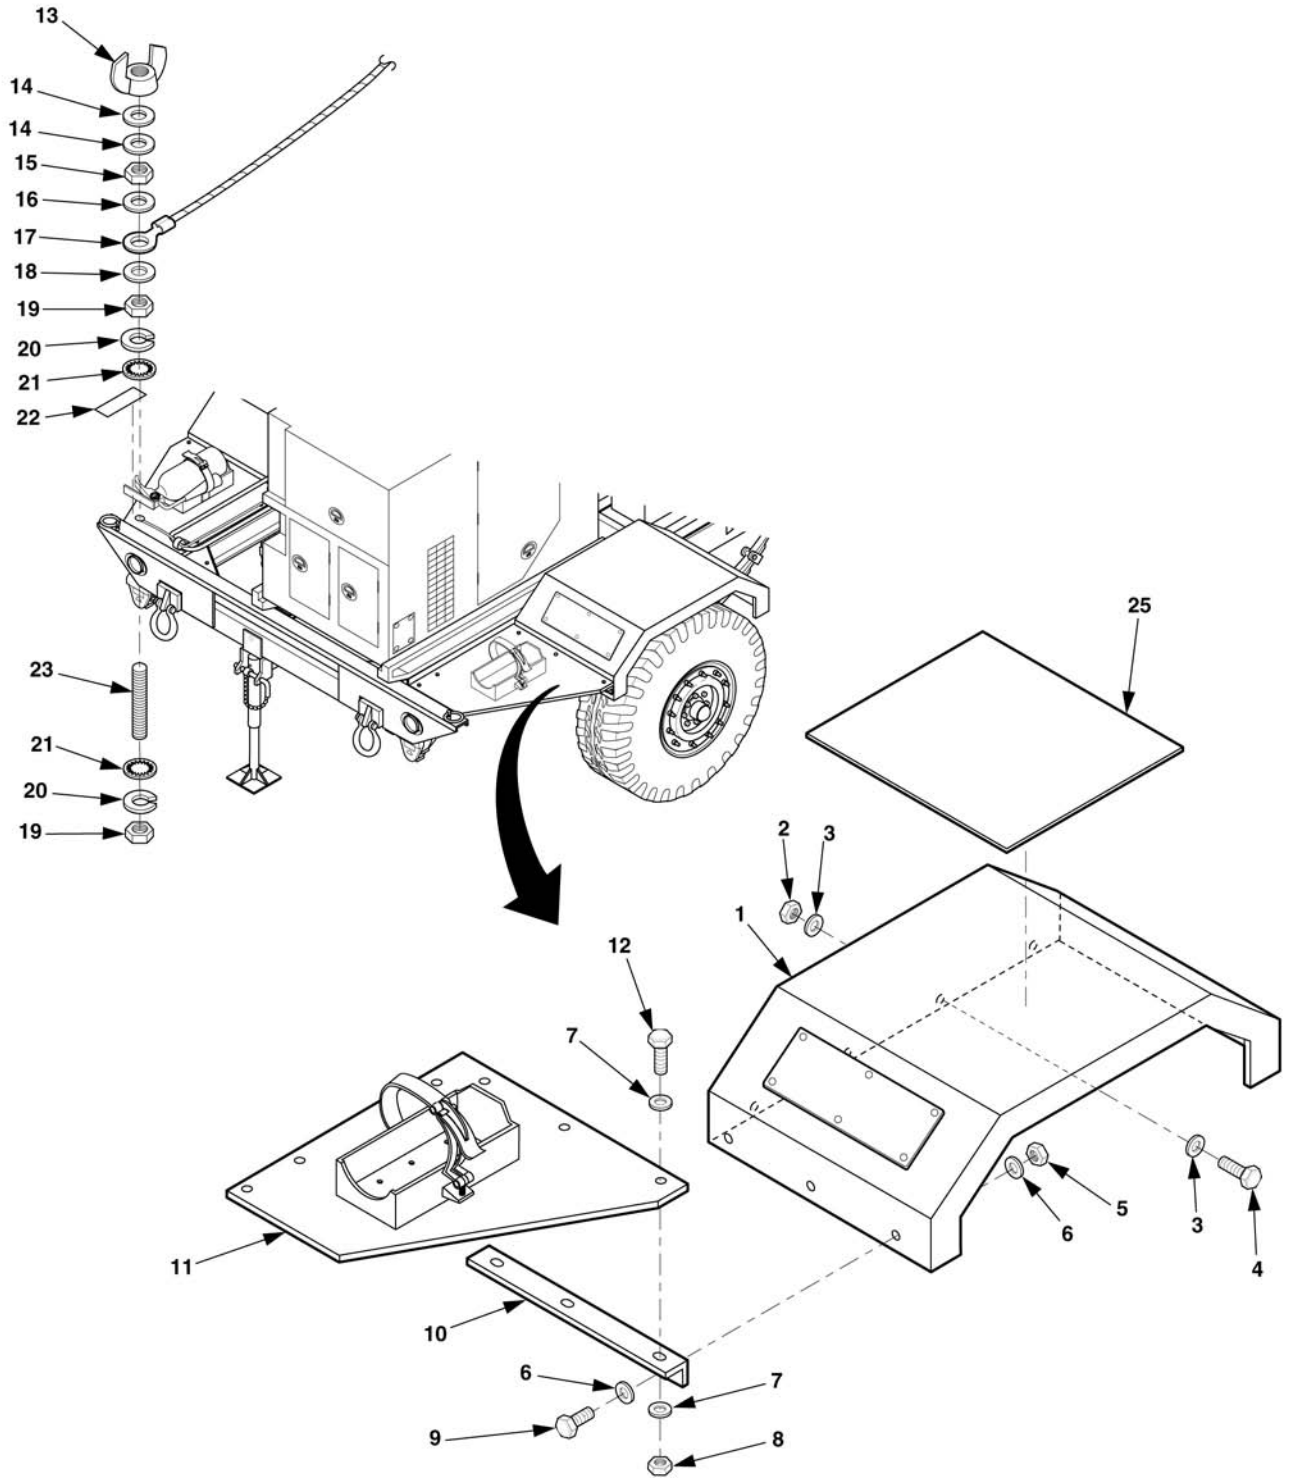

Figure 4-23. AN/MJQ-35 Splash Guard, Bracket, Ground Stud, and Fender.
1. Remove wing nut (13, figure 4-23), two flat washers (14), nut (15), flat washer (16), ground cable (17), and flat washer (18).
5. Remove six self-locking nuts (8, figure 4-23), twelve flat washers (7), six cap screws (12), and splash guard (11).
6. Remove three self-locking nuts (5), six flat washers (6), three cap screws (9), and bracket (10).
7. Remove six self-locking nuts (2), 12 flat washer (3), six screws (4), and fender (1).
3. Install bracket (10, figure 4-23) on fender (1) using three cap screws (9), six flat washers (6), and three self-locking nuts (5).
4. Install splash guard (11) on bracket (10) and mounting rail using six cap screws (12), 12 flat washers (7), and six self-locking nuts (8).